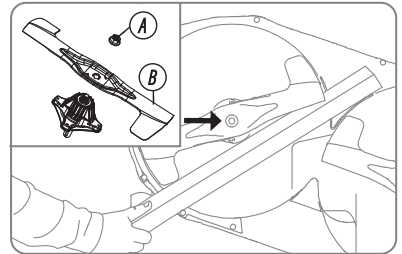

Fig. 60
2. Remove the nut (A) and blade (B).
3. Place the blade with the arrow facing the ground (Fig. 60). The blade arrow on the forward gear side of the lawn mower rotates counter clockwise, and the blade arrow on the brake gear side of the side lawn mower rotates clockwise.